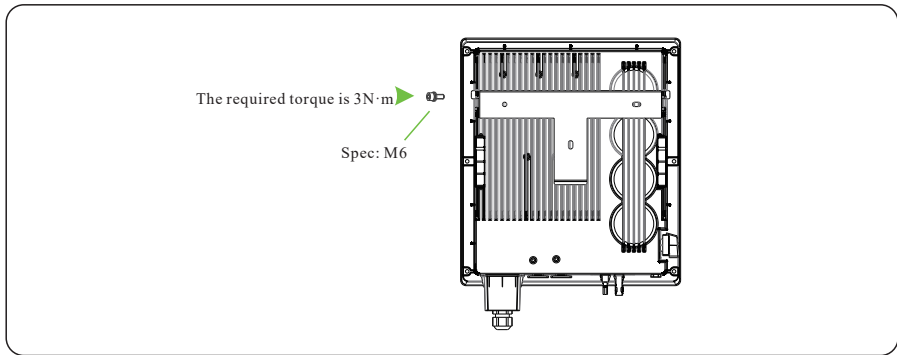

Figure 4.14 Securing the inverter
Step 2 Mount the inverter on the rear panel and keep them aligned with each other, as shown in Figure 4.14.
Step 3 Tighten the two hexagon screws at the both sides of the inverter to a torque of $1.2\text{N}\cdot\text{m}$ and $3\text{N}\cdot\text{m}$ respectively, as shown in Figure 4.14.